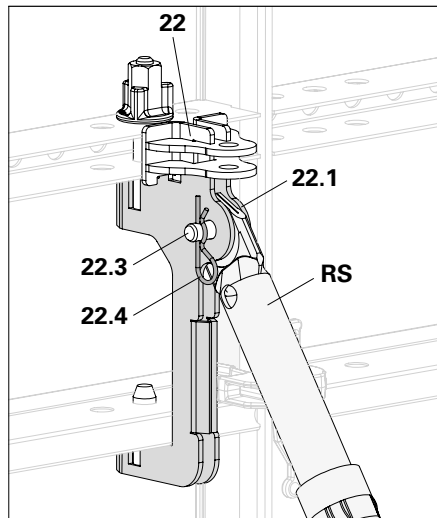

Fig. A6.03a
- Connect Push-Pull Prop (RS) and connection lugs (**22.1**) with bolts (**22.3**) and cotter pins (**22.4**). (Fig. A6.03a)